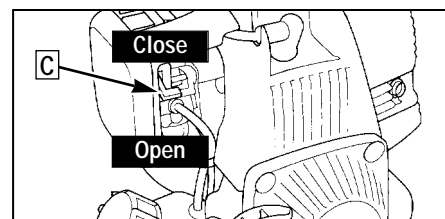

Figure 5
### Engine Choke (Section 4, Figure 5)
2. To start a cold engine, move the choke lever (C, Figure 5) to the CLOSED position. To restart a warm engine, leave the choke lever in the OPEN position.